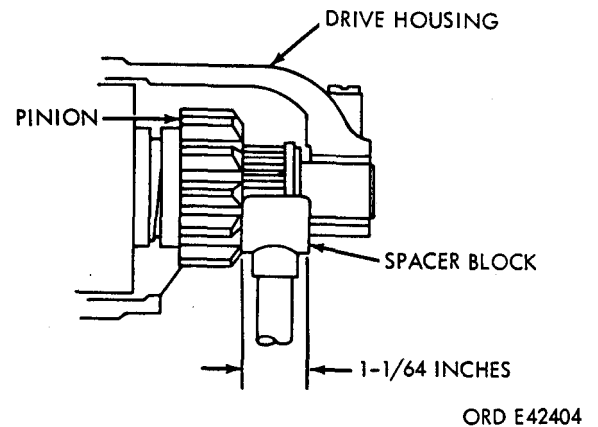

FIGURE 39. PINION BLOCK TEST.
- (1) Connect a test light or other continuity checker between the battery switch terminal stud and motor switch terminal stud.
- (2) Connect one of the posts of a 24-volt battery to the battery solenoid terminal. Connect the other battery post to the motor solenoid terminal.
- (3) Place a 1-1/64-inch spacer block (fig. 39) between the pinion and drive housing and momentarily hold a jumper lead from the motor switch terminal stud to the motor solenoid terminal. The pinion will now shift against the spacer and remain so until the jumper lead is disconnected.